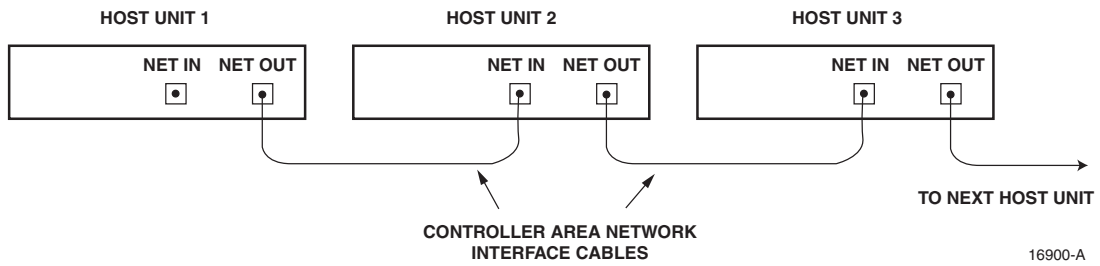

Figure 3-12. Configuring CAN Connections with Multiple Host Units
5. Repeat steps 3 and 4 for each additional HU that is added to the network up to a total of 15 HU's. A diagram of typical CAN interface connections is shown in Figure 3-12.